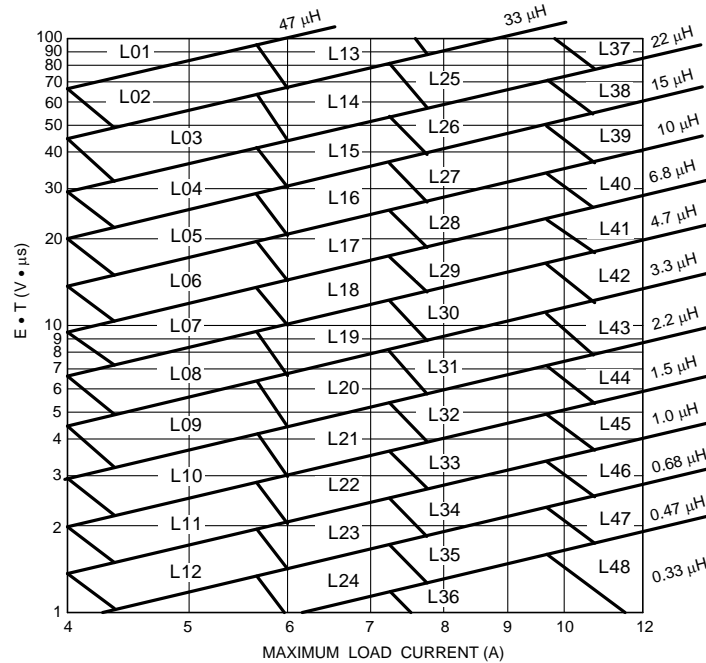

Figure 15. Inductor Nomograph
4. Determine Inductor Required Using Figure 15
To use the nomograph in Figure 15, calculate the inductor volt-microsecond constant ET from the following formula:
The intersection of the Load Current and the Volt-microseconds lines on the chart below will determine which inductors are capable for use in the design. Figure 15 shows a sample of parts that can be used. The offline calculator tools and WEBENCH will fully calculate the requirements for the components needed for the design.